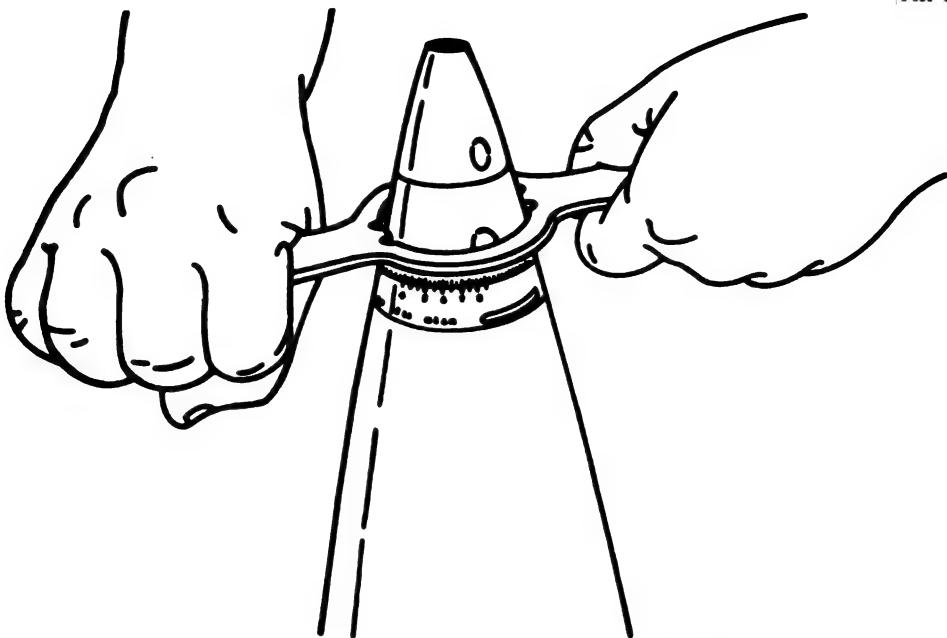

Figure 211.35. M34 fuze setter on M564 fuze.
c. Procedure No. 3, M565 and M564 (fig. 211.35).